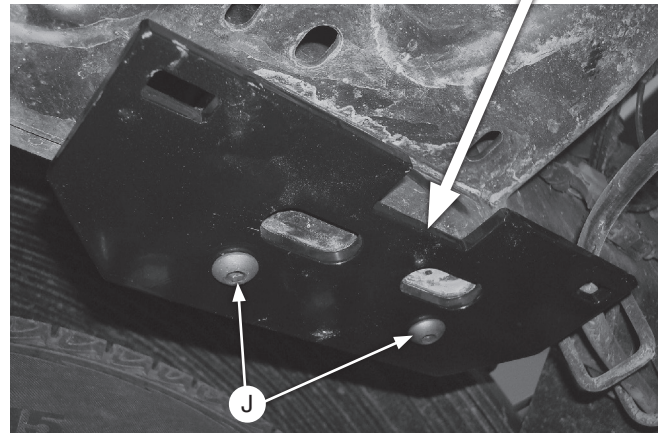

Fig. 6
3. Install the upper frame brackets (B) onto both sides of the frame with the M10-1.5 x 35 button head cap screws (J), making sure the cutout in the brackets faces inboard, away from the tire (Fig. 6). Torque the hardware to 37 lb.-ft. (50Nm).